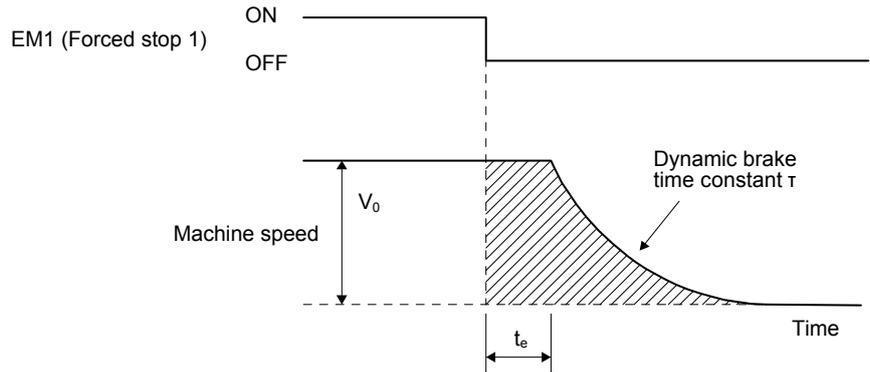

Fig. 10.3 Dynamic brake operation diagram
Fig. 10.3 shows the pattern in which the servo motor comes to a stop when the dynamic brake is operated. Use equation 10.4 to calculate an approximate coasting distance to a stop. The dynamic brake time constant  $\tau$  varies with the servo motor and machine operation speeds. (Refer to (2) in this section.)